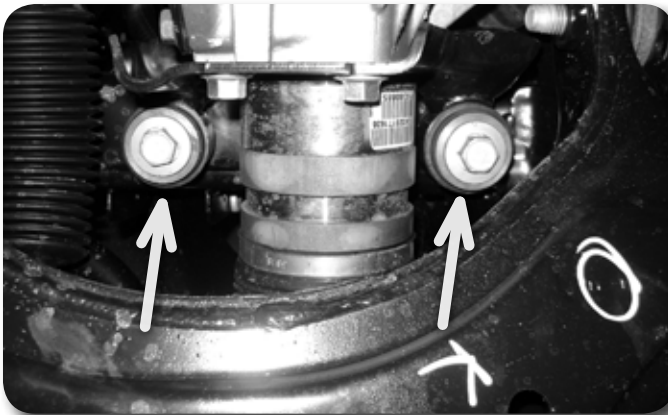

Figure 3
12. Support the differential with a jack and locate the 4 bolts mounting the differential to the frame. Figure 3